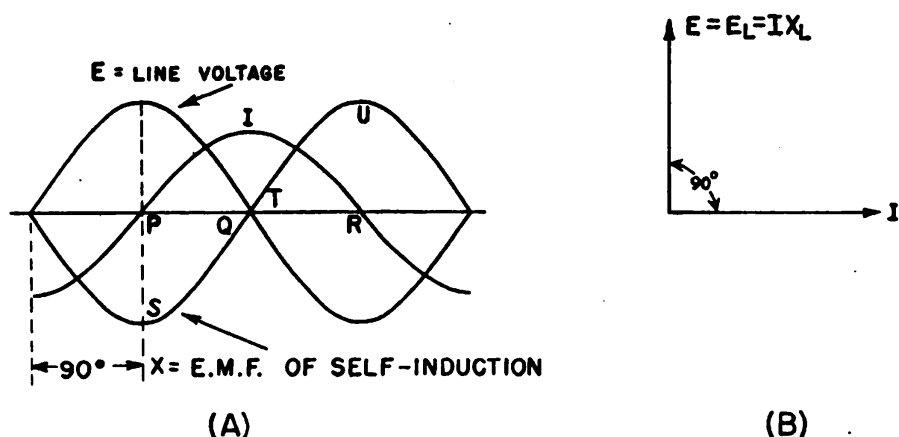

Figure 59.—Current and voltage relationship in inductive circuit.
Look at figure 59 (A), which shows the voltage curve, current curve, and inductance curve for an a-c circuit containing pure inductance with no resistance. Notice that the current curve, I , is at maximum rate of change at point P , where the current changes from negative to positive. So that's where you'd expect MAXIMUM INDUCTANCE or resistance to change. And since the current is changing from negative to positive, you'd expect the induced emf to
The LINE VOLTAGE, E , has to overcome the inductance emf, or no current will flow in the a-c circuit. Hence, curve E of line voltage will be equal in value to curve X of inductance, but will oppose it in order to cancel it out. Thus, in figure 59 (A) curve E is maximum POSITIVE at the instant that curve X of inductance is maximum NEGATIVE. Both are zero together, and E is maximum negative when X is maximum positive. Curve E is 180° out of phase with curve X .
Now you can see that your imaginary circuit which contains only inductance, with no resistance has its voltage LEADING the current by 90° . So you can draw the vector diagram of figure 59 (B), with arrow E leading arrow I by 90° .